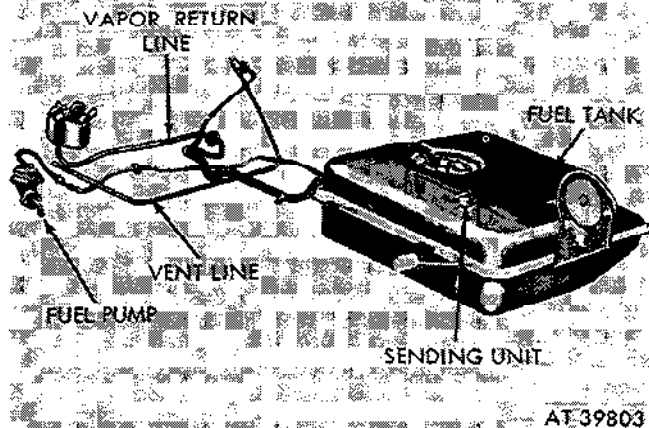

Figure 2-81. Fuel and vent lines on M151A2, M825, and M718A1 vehicles.
(2) On M151A2 series vehicles the mechanical fuel pump (fig. 2-81) is mounted to the right side of the engine. This pump is a single action unit with a lever actuated diaphragm run off the camshaft lobe. Fuel leaving the pump maintains a constant pressure of from 4 to 6 psi. Fuel from the pump goes through the in-line filter (fig. 1-82) before being used by the carburetor.